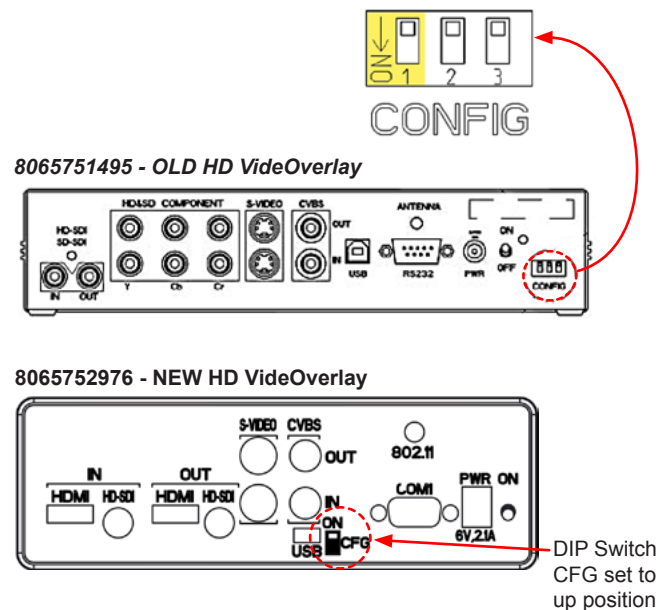

Figure 4-25 VideoOverlay DIP Switch Setting
- 8.2.1 On the HD VideoOverlay Rear Panel, set DIP Switch 1 to the "ON" position (see Figure 4-25).
- 9.2.1 For old HD VideoOverlay, set DIP Switch 1 to the "ON" position (see Figure 4-25).
- 9.2.2 For new HD VideoOverlay, set DIP Switch CFG to the up position (see Figure 4-25).